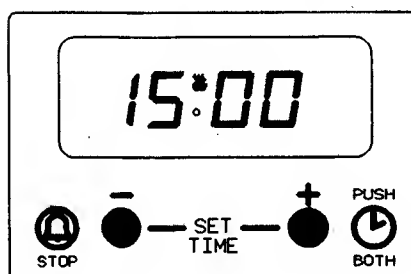

Fig. 6.9
To reset the time of day, press button (1) and (2) together. See Fig. 6.9.